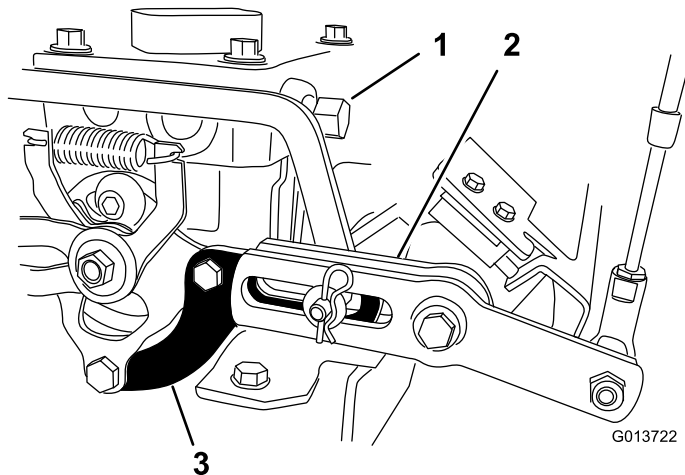

Figure 4
1. Remove the two nuts and bolts attached to the pump arm (Figure 4). Save this hardware.
2. Remove the pump arm from the fork (Figure 4).